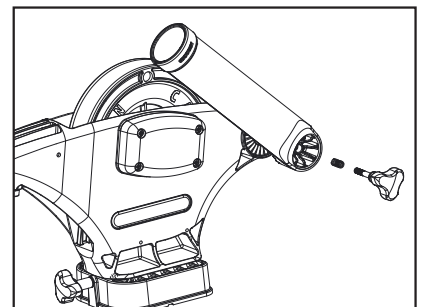

Figure 9
1. Attach the rod holder to the downrigger on the left side using the supplied spring and knob. (Figure 9)